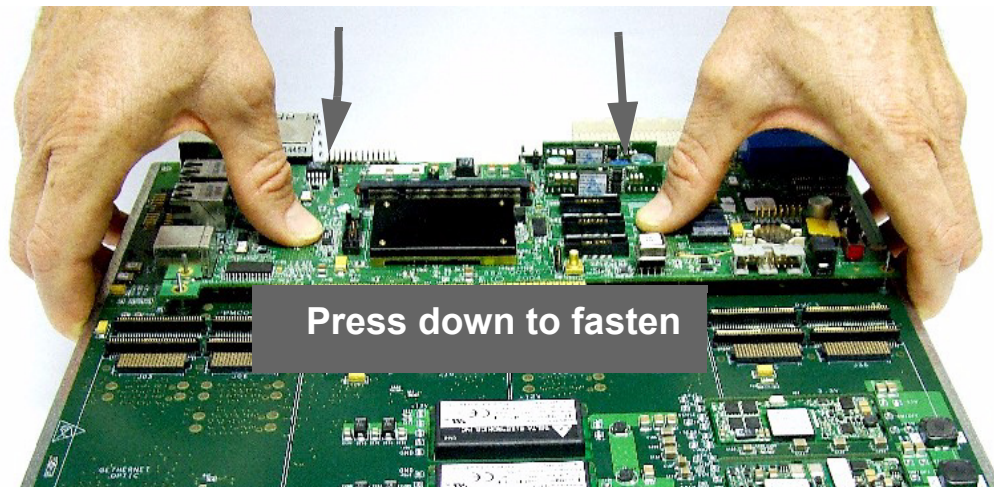

Figure 2-3 Connect 8Xxx Processor Board to PIB and press down with fingers
3. Connect processor board to PIB board as shown in Figure 2-3.
4. Ensure a tight fit by pressing down on the processor board **by hand only** until the pins engage (see Figure 2-3)